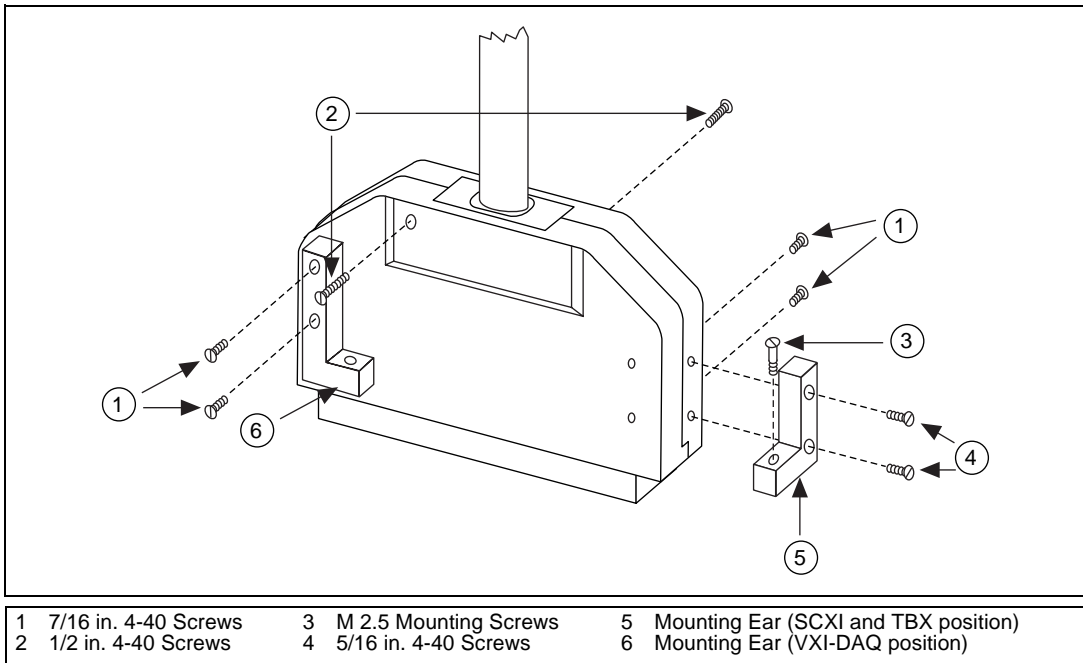

Figure 3. SBS-96F Backshell Assembly
8. Install the 4-40 screws as shown in Figure 3.
9. Attach the mounting ears to the backshell in either the SCXI, TBX, or VXI-DAQ position, as shown in Figure 3.
Figure 3 shows how to assemble the SBS-96F backshell.
3. Verify that the four backshell mounting ears are in the VXI position shown in Figure 3 (item 6). If they are not, remove the mounting ears and install them in the correct position.